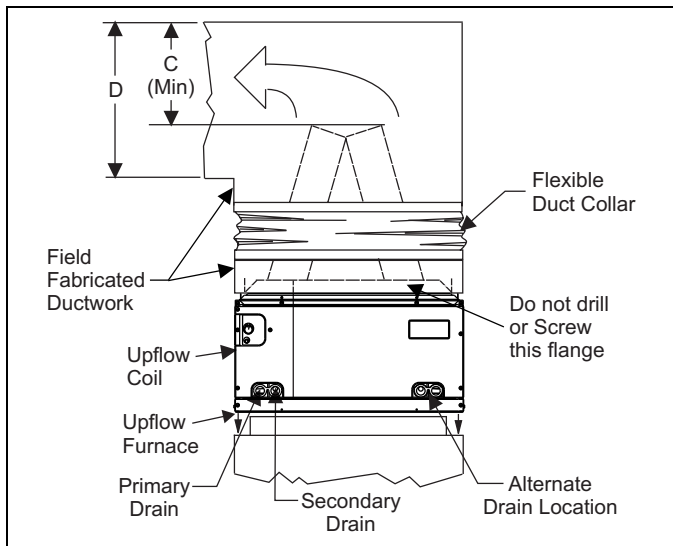

FIGURE 6: PC Series Upflow Coil Installation
1. Position the coil casing over the furnace opening as shown in Figure 6.
Do not drill any holes or drive any screws into the front duct flange on the coil in order to prevent damaging coil tubing. See Figure 6
Dimension "C" should be at least 2/3 of dimension "D". See Figure 6